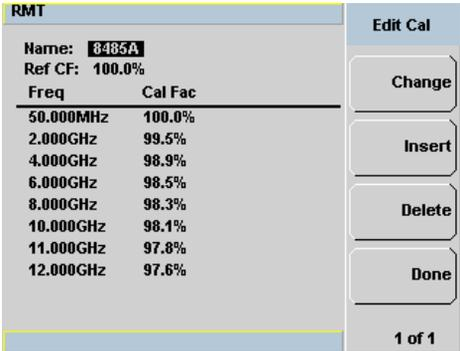

Figure 5-10 "Edit Cal" display
- 2 Choose the table you want to edit using the  and  keys. Press **Edit Table** to display the **Edit Cal** screen as shown in Figure 5-10.